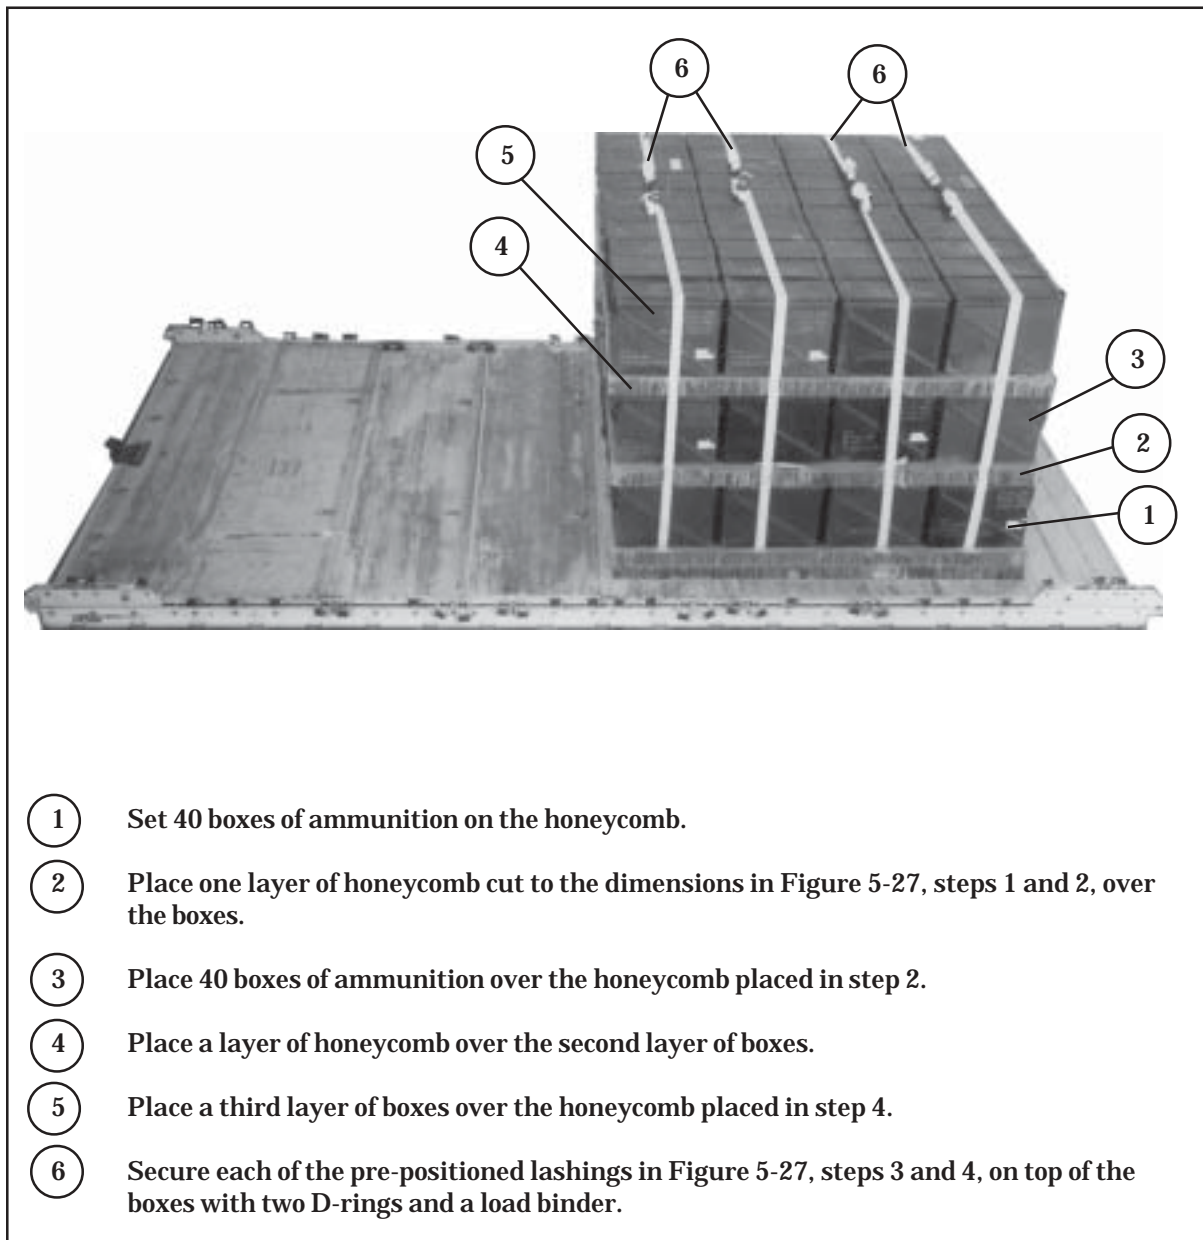

Figure 5-28. First Ammunition Stack Placed and Secured
5-36. Set 120 boxes of 20-mm ammunition on the honeycomb and pre-positioned lashings. Secure the lashings as shown in Figure 5-28.
- ① Stow 120 boxes of ammunition on the honeycomb as shown in Figure 5-28.
- ② Secure each of the pre-positioned lashings on top of the boxes with two D-rings and a load binder.